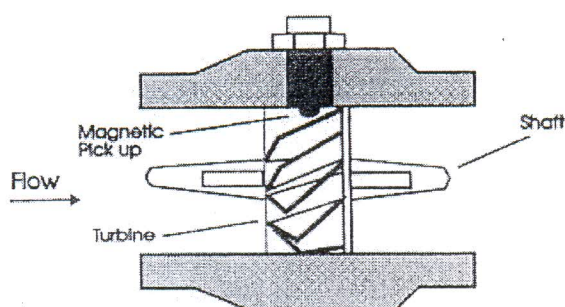

Figure 3: Turbine flow sensor
- (a) **Figure 3** is where turbine flow sensor is used to measure flow. Answer the following questions based on this figure.